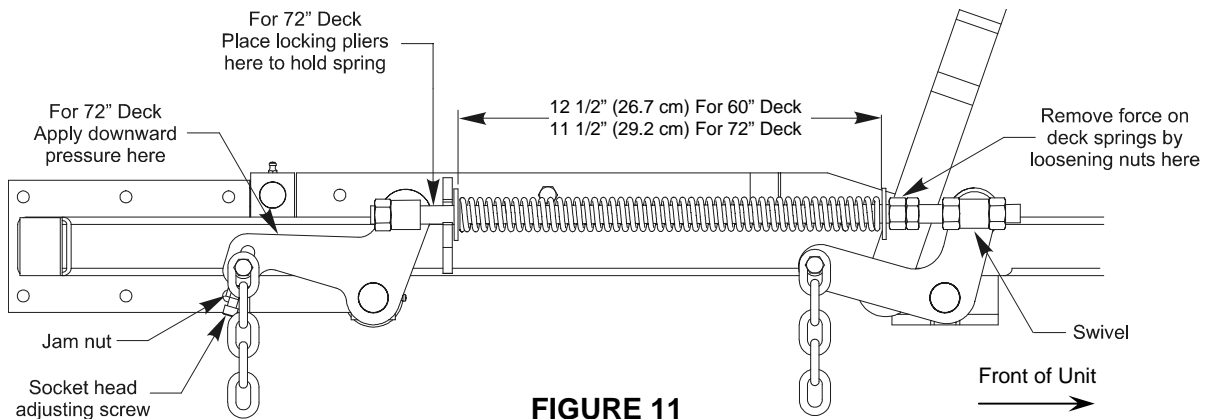

FIGURE 11
- e) Raise the deck to the 5" (12.7 cm) height position (also transport position) and take all force off of the two large deck lift springs by loosening the nuts at the front of each spring. See Figure 11.
For 72" units – Lower the deck to the 1-1/2" (3.81 cm) height position. Force the left rear deck support arm downward about 1/4" (6.4 mm) to get the deck to rest at the 1-1/2" height position. Place locking pliers between the rear swivel and spring stop to hold the deck in this position. See Figure 11.
- l) Raise deck lift lever to the 5" (12.7 cm) cutting height position See Figure 9. Adjust spring compression until proper distance is obtained between the two large washers (See Figure 11). Adjustment is made by turning the nut at the front of each spring (clockwise will shorten the spring, counter-clockwise will lengthen the spring). Lock in position with jam nuts.